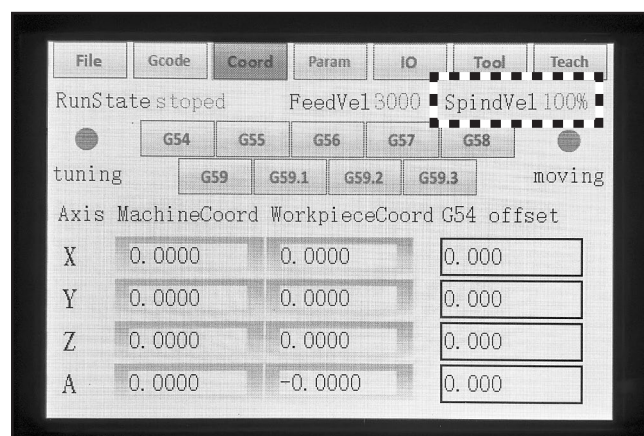

Figure 15. SpindVel status displaying 100%.
10. Press and hold one of the enable buttons on either side of DSP controller, then slowly rotate MPG wheel clockwise until SpindVel value shows 100% (see **Figure 15**).